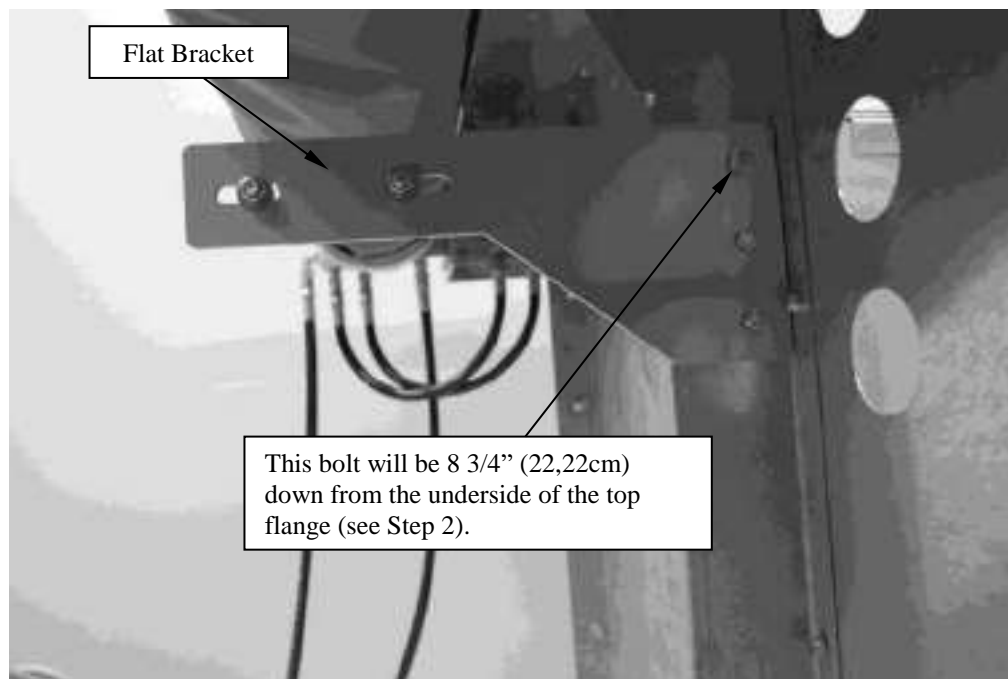

Fig 17
3. The C-bracket assemblies are 2 pieces, a flat bracket and the C-bracket. Disassemble the C-brackets. Align the top hole in the flat bracket with the horizontal line on the Z-brace so that the flat bracket is seated firmly against the pool wall (Fig 17). Mark all the holes in the flat bracket on the Z-brace.
- 4. Use a 5/16" (8mm) drill bit to drill out each of these three holes for every Z-brace. Then use the provided hardware to attach the flat bracket to the Z-brace. (Fig 17)
7. Line up the pulley channel to the drive assembly and C-brackets so that the hinged pulley assembly on the pulley channel is at the same end as the rope reel and drum motor assembly. Attach the pulley channel to the end brackets first using the provided hardware (Fig 17).